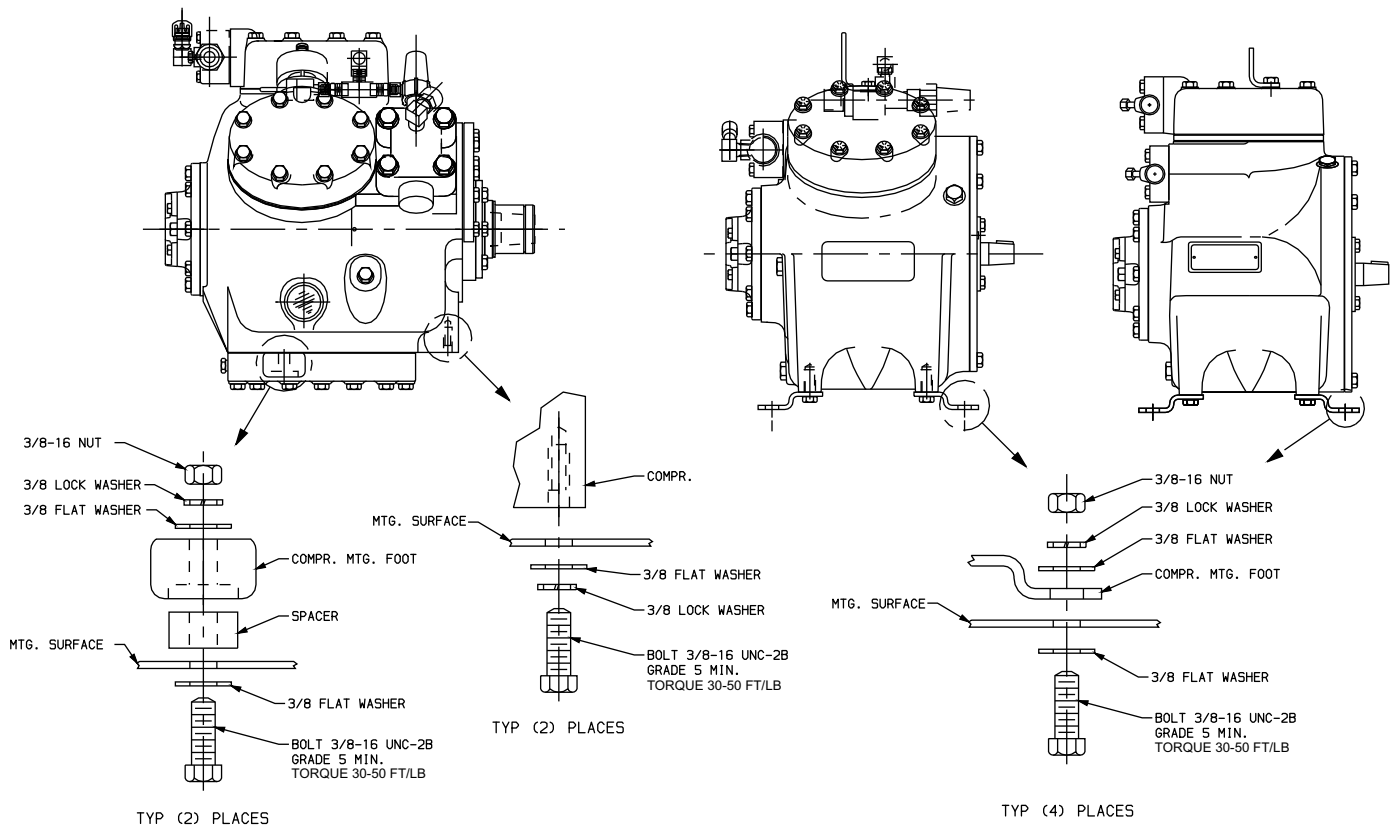

Fig. 18 — Mounting
2. Solid mounting is recommended for all 05G compressor installations as shown in Fig. 18. Mount the